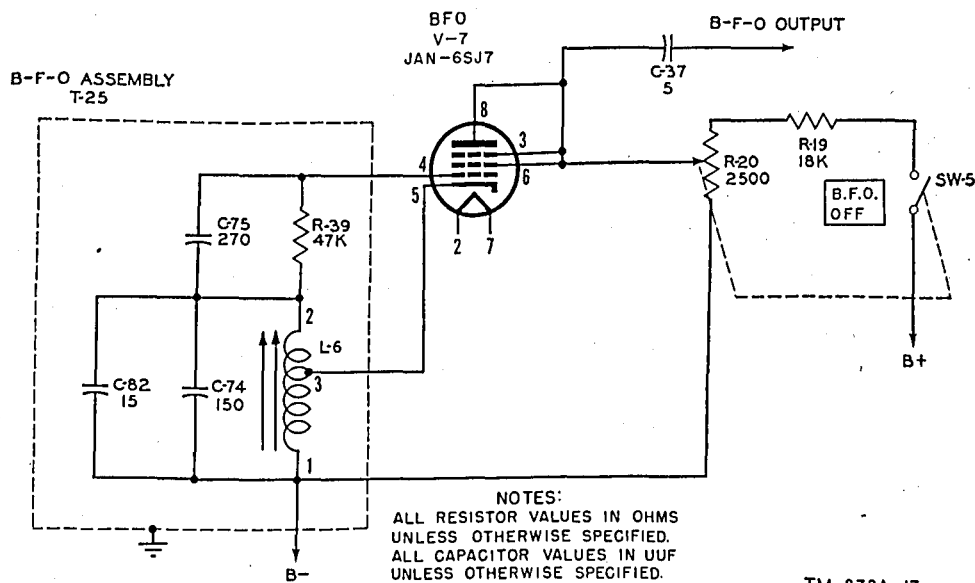

Figure 23. Beat-frequency oscillator, simplified schematic diagram.
54. Beat-frequency Oscillator (fig. 23)
a. Continuous waves or keyed continuous waves are made audible after they are received by means of the circuit shown in figure 23. This is the beat-frequency oscillator, V-7, which produces an r-f signal about 1,000 cycles above or below the inter-